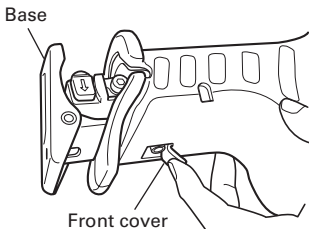

Fig. 11
(1) Lift the front cover up as illustrated in Fig. 11.